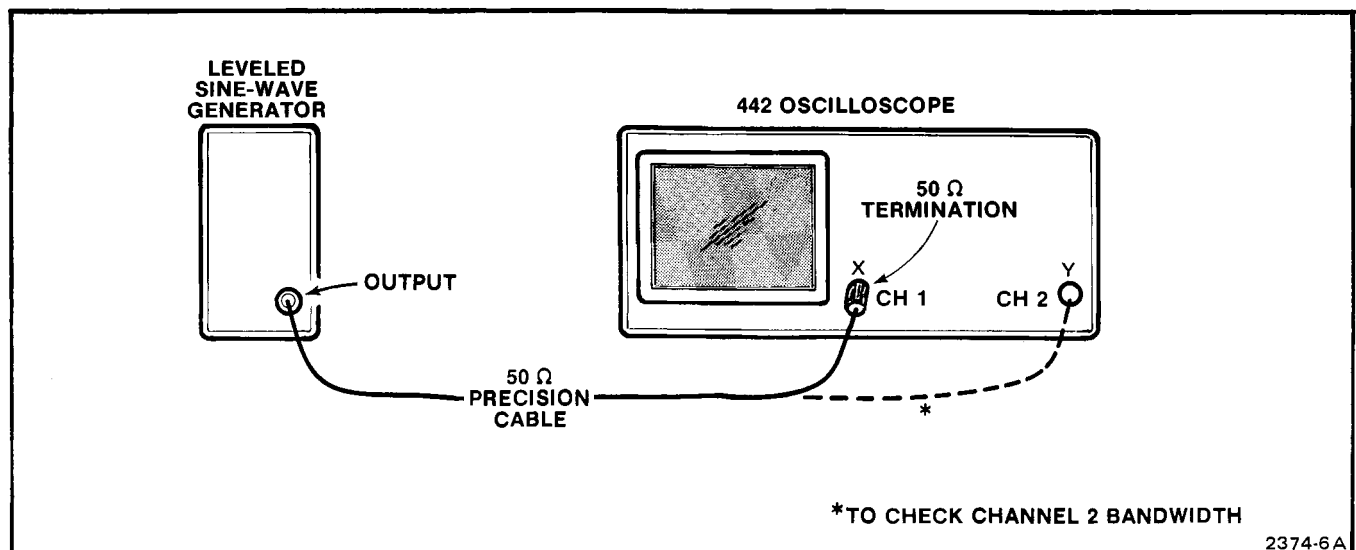

Figure 4-2. Bandwidth check test setup.
a. Connect the test equipment to the Channel 1 input connector as shown in Figure 4-2.